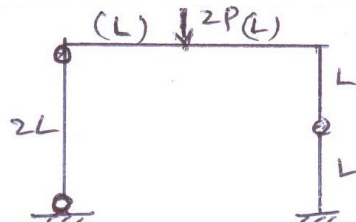

Figure 3
- Compute the critical load of the frame by using energy methods? Assume all members has same modulus of rigidity (EI) ? (Refer Figure 3) (6M)